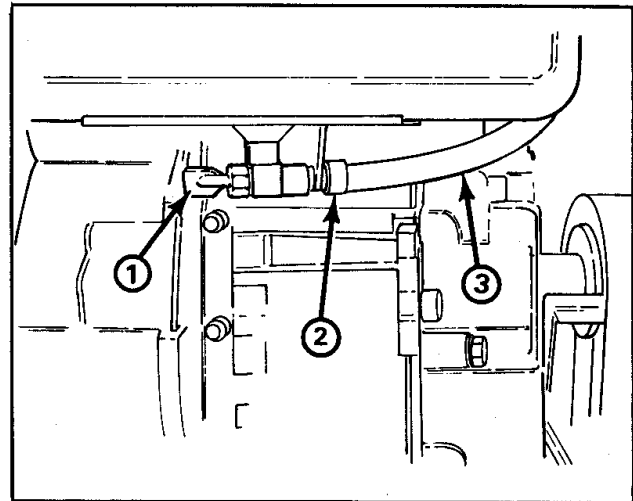

Figure 17
1. Close fuel shut off valve located under engine (Fig. 17).
3. Loosen hose clamps securing fuel line to valve and slide line off valve (Fig. 17).